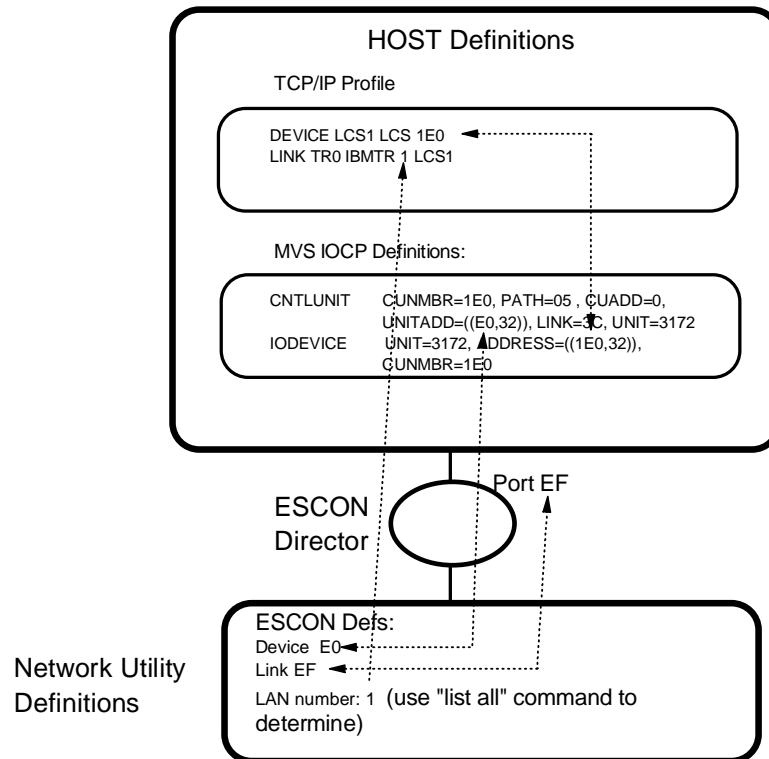

Figure 14-8. Host/Network Utility Parameter Relationships - LCS
Figure 14-8 on page 14-12 shows how the parameters correlate between the host and the Network Utility for an LCS interface definition.
2. The device address specified in the Network Utility LCS interface definition must be within the range specified in the UNITADD parameter in the CNTLUNIT macro from the IOCP. For example, the UNITADD parameter in Figure 14-8 shows that 32 (decimal) device addresses starting at E0 (hex) are being reserved for the Network Utility definition. A device address of E0 has been specified for the Network Utility LCS interface. The Network Utility will automatically allocate E1 also. Since E0 and E1 are in the range E0 to FF hex, this is OK as long as no other device (or interface on this Network Utility) tries to use these same subchannels.
3. The value specified in the DEVICE statement in the host TCP/IP profile must be within the range specified in the ADDRESS parameter in the IODEVICE macro from the IOCP. For example, the DEVICE statement in the host TCP/IP profile in Figure 14-8 is 1E0 hex, which is in the range 1E0 to 1FF that the ADDRESS parameter in the IODEVICE statement specifies.